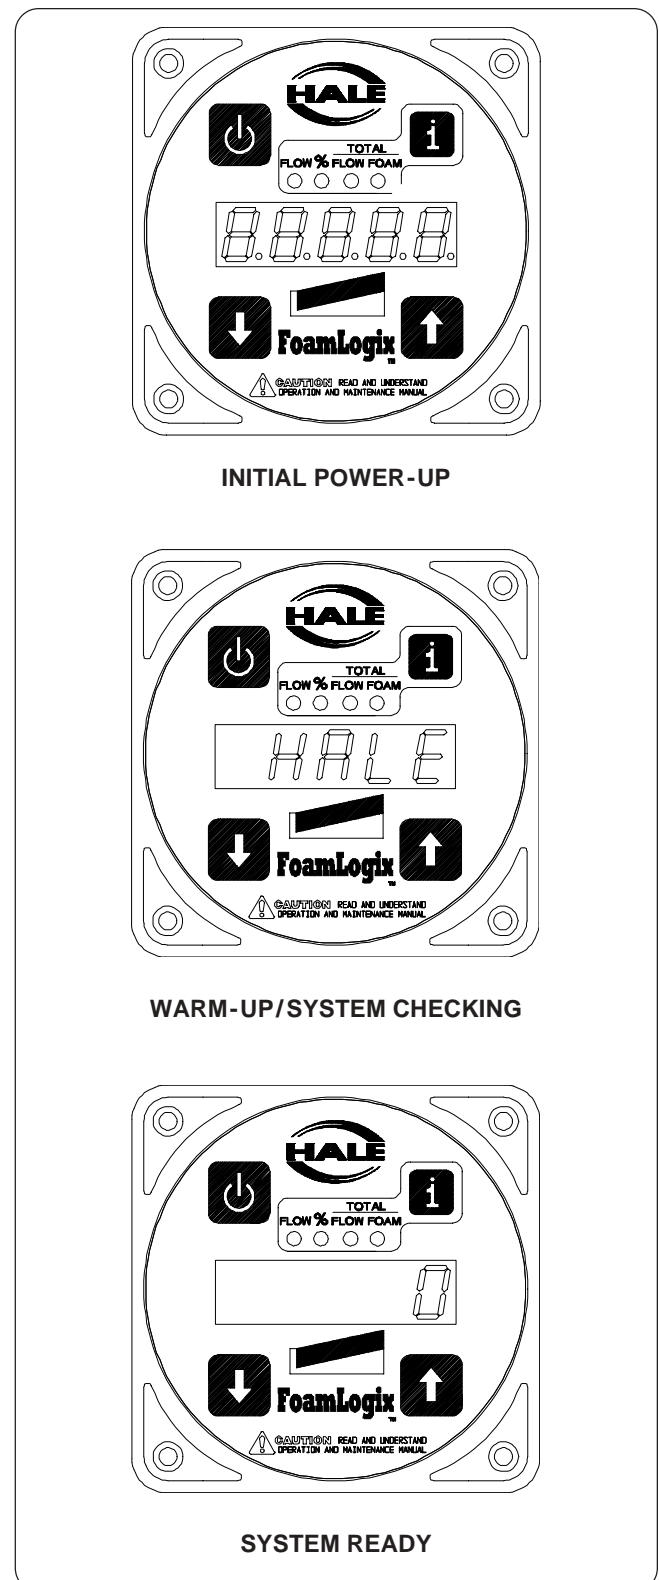

Figure 23: Control Unit Ready Indication
- ❑ The default display, zero (0), if no water is flowing and FLOW LED
- (See Figure 23: “Control Unit Ready Indication”).
Set simulated flow value to **100** GPM by pressing UP **↑** or DOWN **↓** button. The display shows **S** at the left most position to indicate the simulated flow. (See Figure 23: "Simulated Flow Display.")